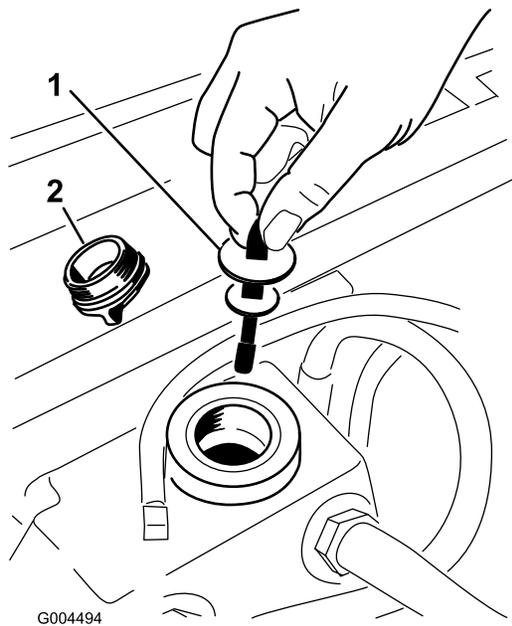

Figure 63
5. Remove the hydraulic fill cap (Figure 63) from the filler neck.
6. Remove the dipstick and wipe it with a clean rag (Figure 63).
7. Place the dipstick into the filler neck; then remove it and check level of fluid (Figure 63).